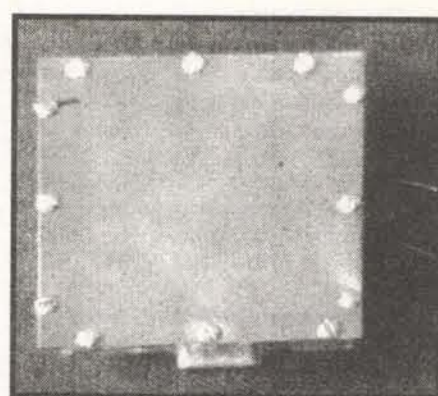

FIGURE 16
11) Again replace the top cover and install two #2 x 3/16 screws in the holes. The top cover is now locked in position. Using the #50 bit, drill the remaining holes around the perimeter of the top (Figure 16), each hole spaced approximately 1/2 inch. Remove the top cover and redrill the holes in the cover with the #42 bit. Tap the remaining holes of the shield case with the #2